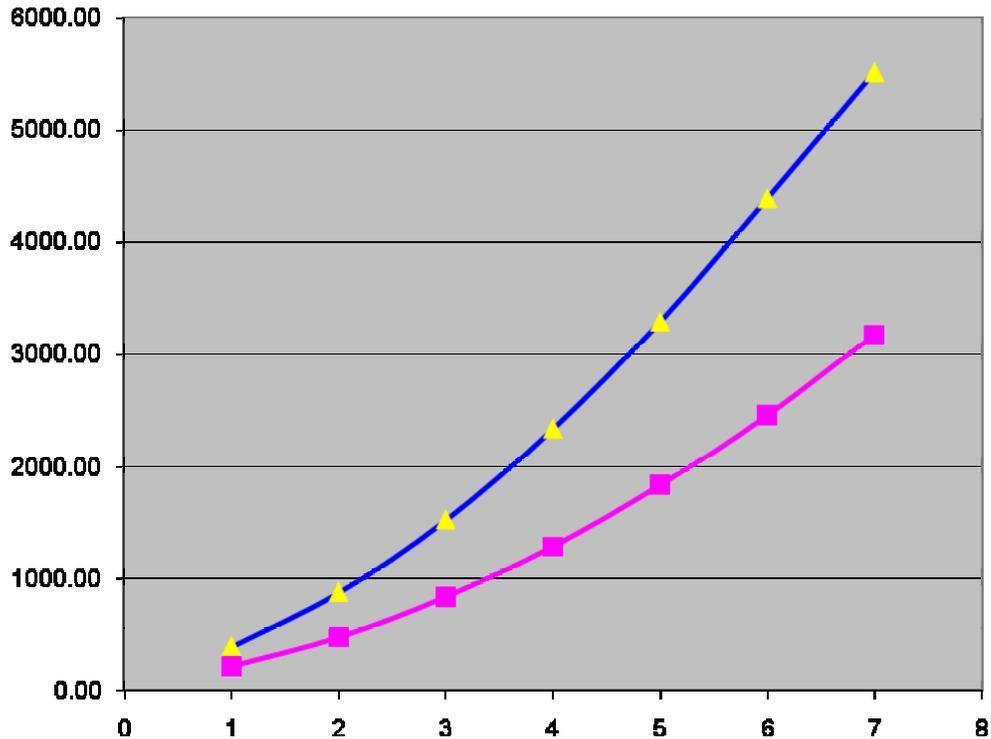

Fig. 2. Load-speed characteristics with load resistance of 1.34 and 0.565 ohms
3. Loading tests are conducted in a speed range of 200-800 rpm in various loading conditions. In Figs 2 two loading conditions are selected to shown, one for rated load (3kw) and another overload (5kw) conditions.
Also to be noted that in a real wind power generator situation, the power-speed curve will be different from what shown in Fig. 2 - the generator power is proportional to the cubic of the speed, instead of square of the speed.